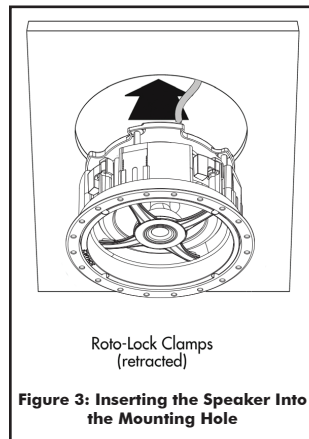

Figure 3: Inserting the Speaker Into the Mounting Hole
3. Make sure all the Roto-Lock toggle feet are retracted so that they are tucked within the mounting hole's border. Insert the speaker into the hole in the ceiling (Figure 3). The Roto-Lock system can accommodate a ceiling material thickness of 1-1/2" (38mm).